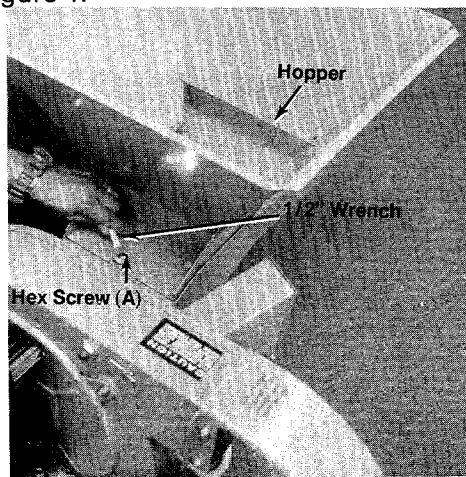

FIGURE 4.
- A. Place the hopper on the shredder, start all three self threading screws (A) by hand and then tighten with a $\frac{1}{2}$ " wrench. See figure 4.